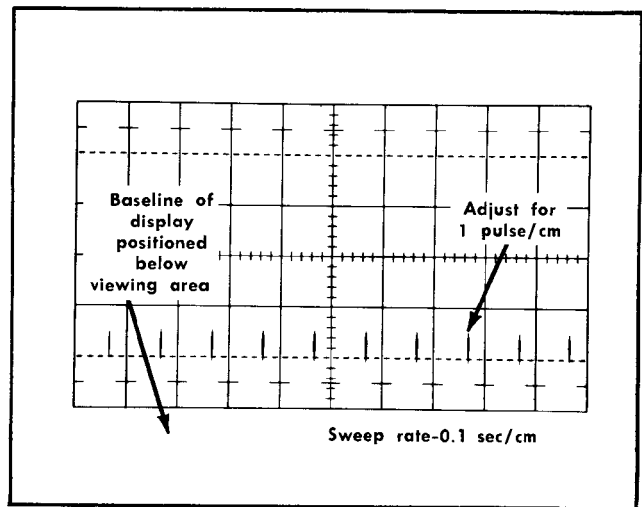

Fig. 5-50. Test oscilloscope display for setting triggering pulse repetition rate to 10 cps.
- f. Adjust the pretrigger pulse generator Repetition Rate control for 1 pulse/cm in the test oscilloscope display (see Fig. 5-50). This sets the repetition rate at 10 cps.